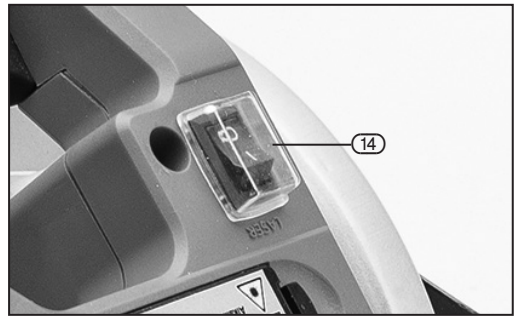

FIG. 25
7.1 USING THE LASER GUIDE – FIGS. 25 – 26